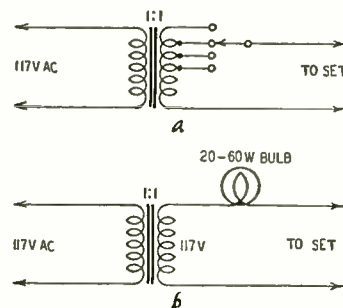

Fig. 2—Two methods of lowering line voltage; a— isolation transformer with variable secondary; b—110-volt lamp in series with secondary.
Fig. 2 (right)—FM receiver production by years, including TV sets with continuous tuners which tune FM band. Without such sets, FM set production would have dipped to about 878,000 in 1949, staying at about this level in 1950-51.
Before EIA (or RETMA as it was then) stopped counting, it estimated 1,175,000 sets were produced in 1947, peaking to a high point of 1,600,000 in 1948 (see Fig. 2). Then came the drop, with annual output dipping to a little over half a million by 1952. In subsequent years, production probably fell to about 200,000 annually, reaching this lowest ebb in 1954.
a. *Low line voltage at customer's home.* A tube which may operate satisfactorily in your shop can be microphonic in the customer's home under certain line-voltage conditions. (This is particularly true with three-way portables which use 1.4-volt tubes.) You can catch most of these offenders with an isolation transformer with a variable tap, or with a 115-volt bulb (20 to 60 watts) in series with the secondary (see Fig. 2). Low emission and drifting oscillator conditions will